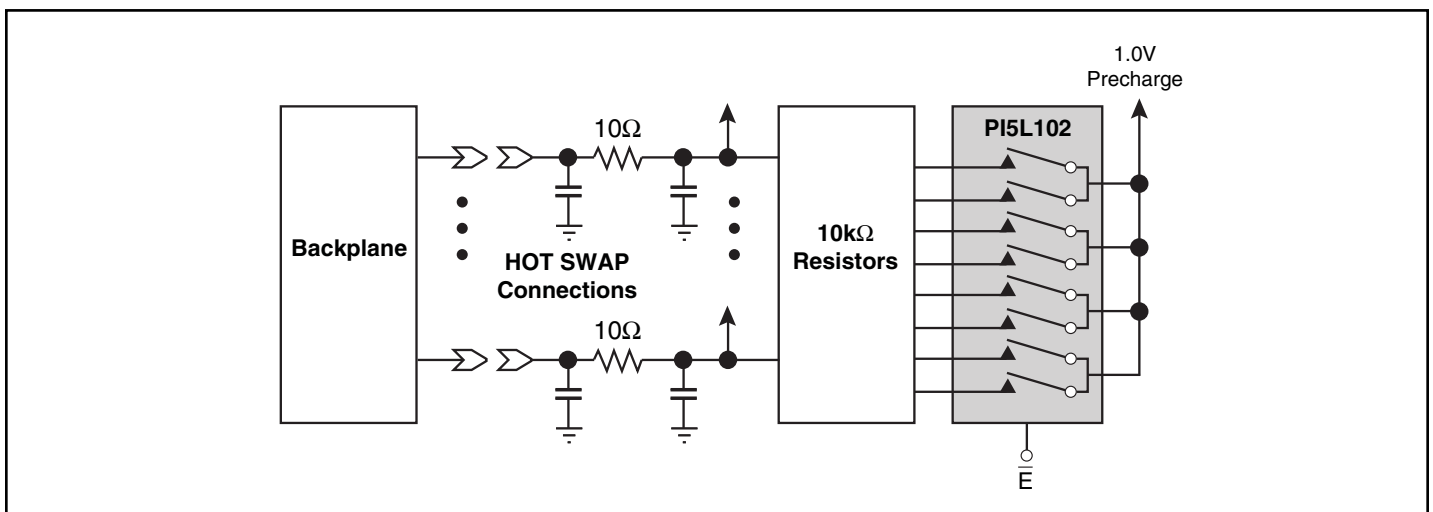

Figure 2. Hot Swap Precharge Voltage Selection
1. See test circuit and waveforms (Figure 2).